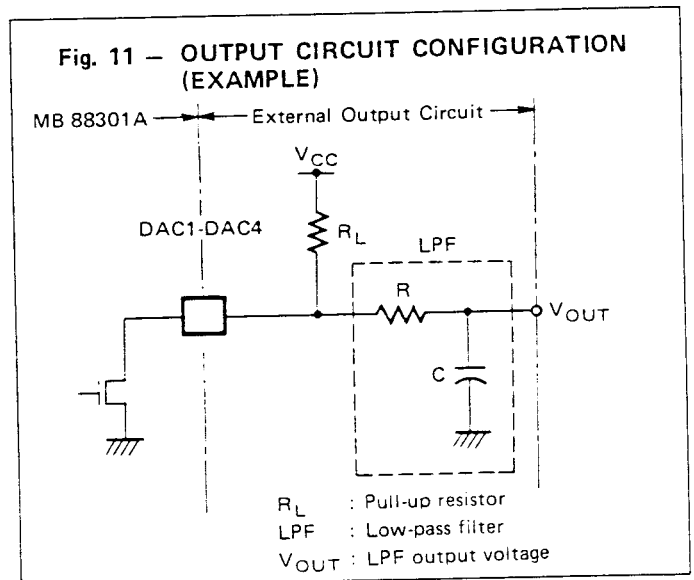

Fig. 12 — DAC OUTPUT WAVEFORM
The on-chip pulse width modulator generates positive pulse waveforms similar to the one shown in Fig. 12 at the DAC outputs (DAC1 to DAC4). The pulse width (t_H) is proportional to the digital data programmed into the data register. The cycle time (T) is determined by the resolution value (6 or 13 bits).
User-designed low-pass filters are required at the DAC outputs to eliminate AC components from the output waveform and to convert the waveform to a DC voltage. Fig. 11 shows an example of a simple output configuration in which an RC integrator is used as the low-pass filter. With this circuit, the DAC waveform shown in Fig. 12 is converted to the V_{OUT} output waveform shown in Fig. 13. Ripple and response time (t_R) depend on the time constant of the RC filter. A longer time constant reduces ripple but increases response time. A time constant that best meets the tradeoff between desired accuracy and response time should be chosen. Since the DAC outputs are high voltage open drain, they can be externally pulled up to a power supply higher than 5V. To prevent the output voltage from attenuating through the external low-pass filters.